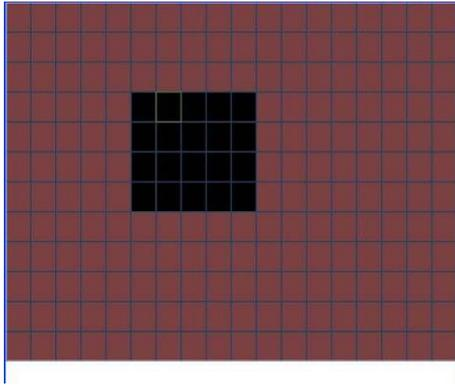

Figure 4-77
- Region: Click select button, the interface is shown as in Figure 4-77. Here you can set motion detection zone. There are 396(PAL)/330(NTSC) small zones. The green zone is current cursor position. Grey zone is the motion detection zone. Black zone is the disarmed zone. You can click Fn button to switch between the arm mode and disarm mode. In arm mode, you can click the direction buttons to move the green rectangle to set the motion detection zone. After you completed the setup, please click ENTER button to exit current setup. Do remember click save button to save current setup. If you click ESC button to exit the region setup interface system will not save your zone setup.
In Figure 4-77, you can left click mouse and then drag it to set a region for motion detection.